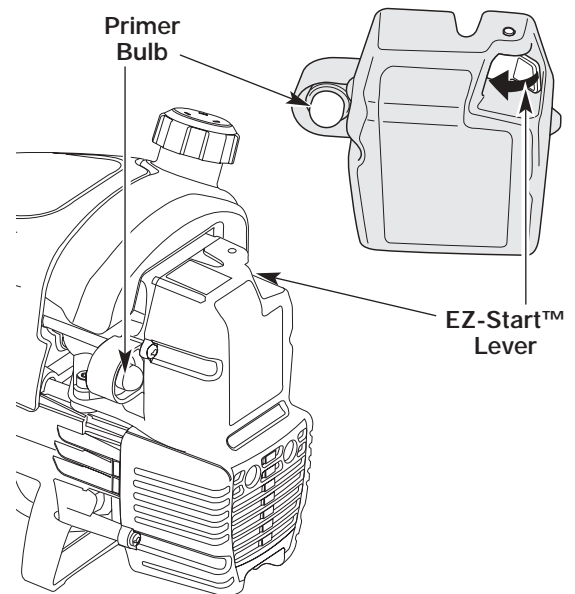

Fig. 7
**NOTE:** There is no need to turn the unit on. The On/Off Stop Control is in the ON (I) position at all times.
2. Fully press and release the primer bulb 10 times, slowly. Some amount of **fuel should be visible in the primer bulb** and fuel lines (Fig. 7). If you can't see fuel in the bulb, press and release the bulb as many times as it takes before you can see fuel in it.
3. **Push the EZ-Start™ Lever towards the primer bulb** until it clicks and locks into place (Fig. 7).